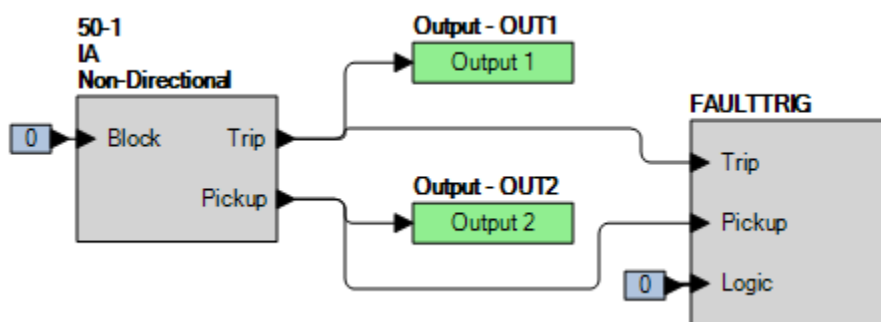

Figure 65-1. BESTlogicPlus Settings (Phase Mode)
Step 2: Use BESTCOMSP $\textit{Plus}$  to configure the BESTlogic $\textit{Plus}$  programmable logic shown in Figure 65-1.
- Step 4: Prepare to monitor the 50-1 function operation. Operation can be verified by monitoring OUT2 (see Figure 65-1).